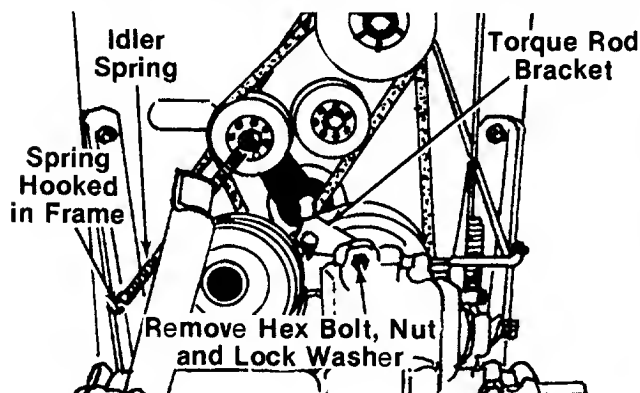

FIGURE 30.
5. Unhook the idler spring from the rider frame. See figure 30.
6. Remove the hex bolt, nut and lock washer at the torque rod bracket and transaxle. See figure 30.